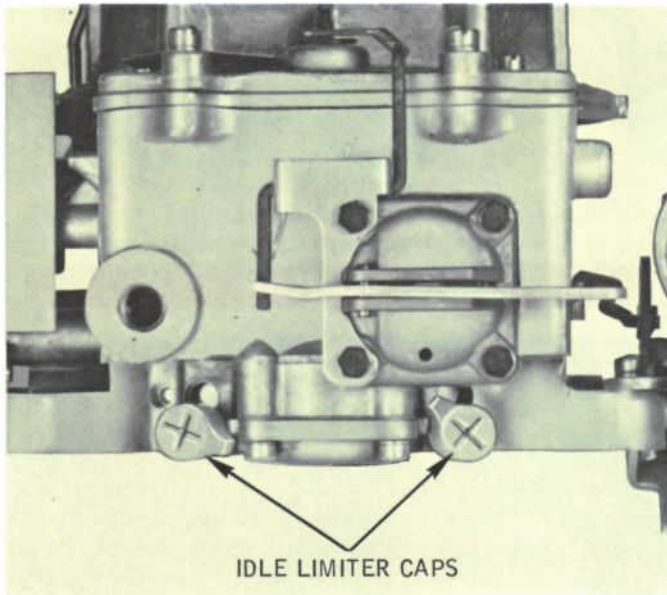

Fig. 22 — Idle Fuel Mixture Limiter Caps — Autolite Carburetors
1. On Autolite (all models) and Carter 4-V carburetors, set the idle fuel mixture screw(s) and limiter cap(s) to the full-counterclockwise position of the limiter cap(s) as illustrated in Fig. 22.